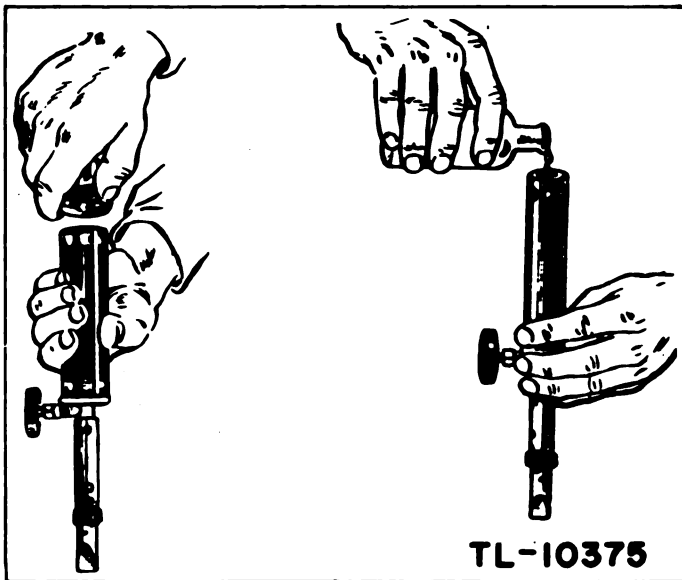

Figure 84
a. To fill chamber with fuel, unscrew handle base and fill tube with fuel, (Fig. 84). Screw handle base tightly so that the fuel will not leak out. *See that Regulating Valve is turned up tightly to the right (in a clockwise direction).*